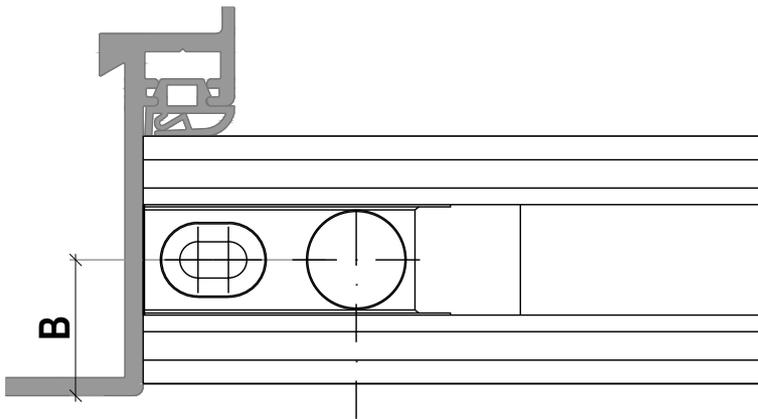

Figure 1
3. ... the axis of the pivot bearing in the slide rail - top - (Figure 1) corresponds to the axis of the bottom bearing (Figure 2) and the dimension "B" at the top and bottom is also the same.